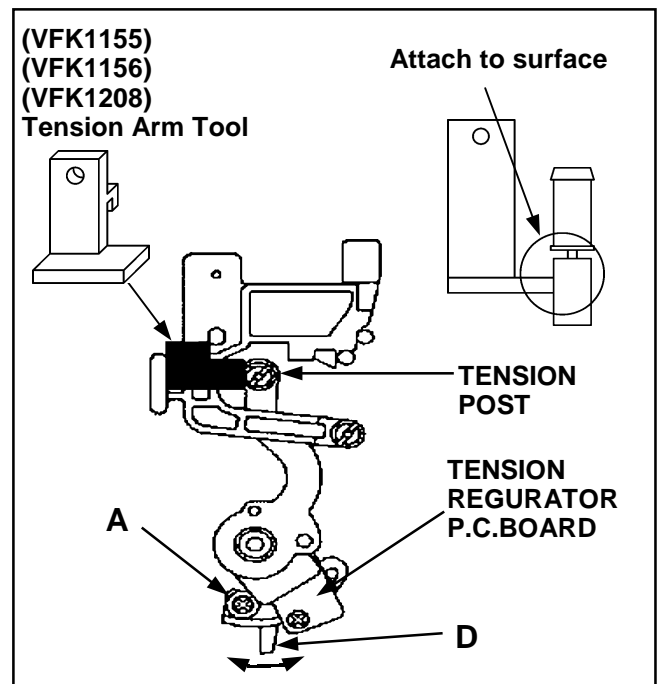

Figure 4-4-2
2. Set the VFK1208 (black with hole) at the position as shown in figure 4-4-2.
5. Loosen the screw (A) and move the lever (D) with tweezers to adjust the sensor position so that the DC voltage at Test Point is within the specification.
2. Set VFK1156 (black) at the position as shown in figure 4-4-2.
6. Set VFK1156 (Silver) at the position as shown in figure 4-4-2.